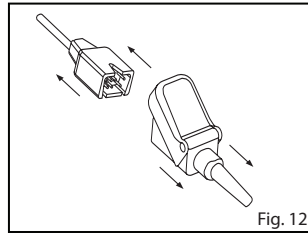

Fig. 12
2. Refer to **Fig. 12**. Pull firmly on the sensor connector to remove it from the patient cable.